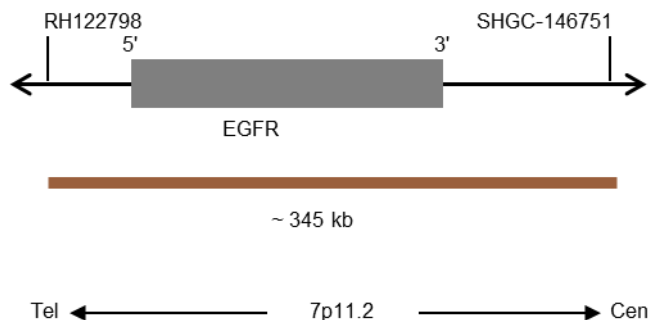

Fig. 1: SPEC EGFR Probe map (not to scale)
- Digoxigenin-labeled polynucleotides (~1.8 ng/ $\mu$ l), which target sequences mapping in 7p11.2\* (chr7:55,034,991-55,380,617) harboring the EGFR gene region (see Fig. 1).